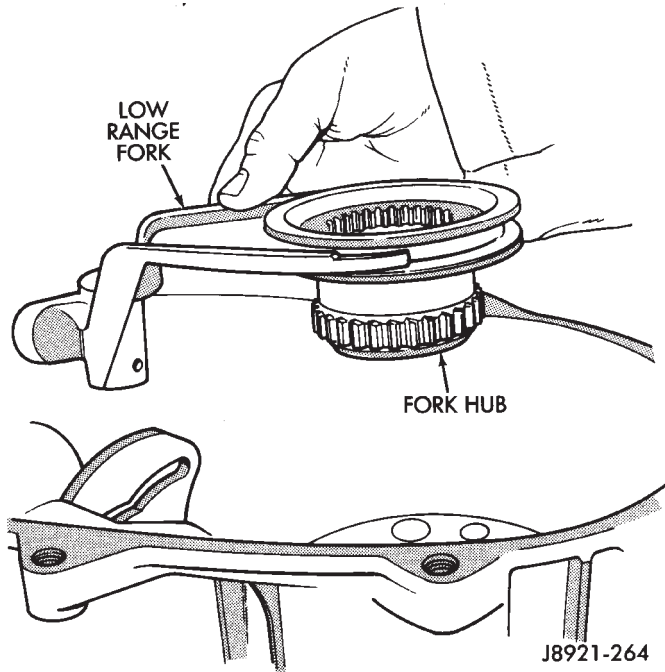

Fig. 30 Removing Low Range Fork And Hub
(38) Remove low range fork and hub (Fig. 30).